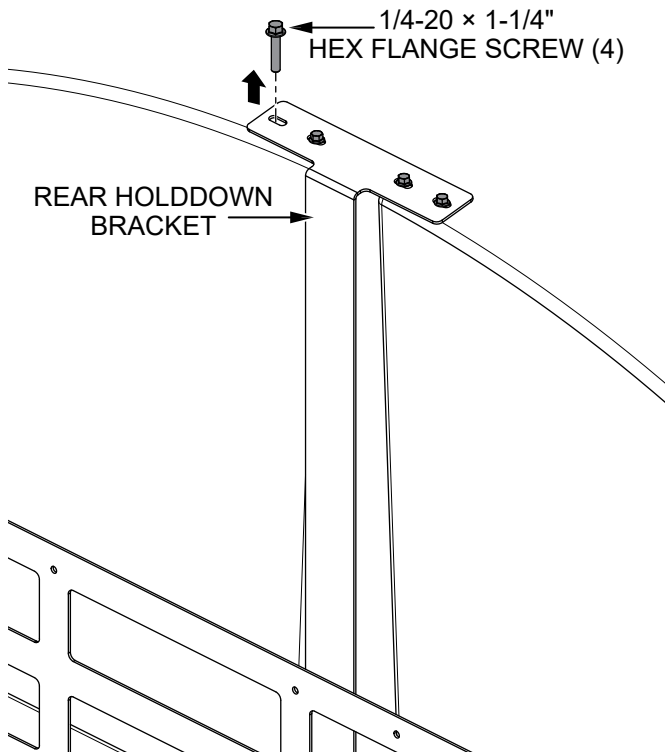

Figure 5. Remove Upper Rear Holddown Bracket Hardware
5. Remove and discard the **four 1/4-20 × 1-1/4" hex flange screws** (Figure 5) securing the **rear holddown bracket** to the water tank.